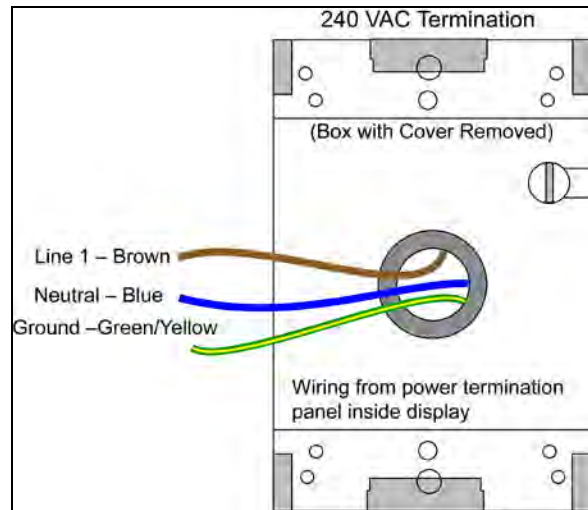

Figure 34: 240 VAC International Power Termination
3. Inside the external power termination J box, connect the power wires to the wires coming from the display interior using wire nuts. Refer to **Figure 34** for a diagram.